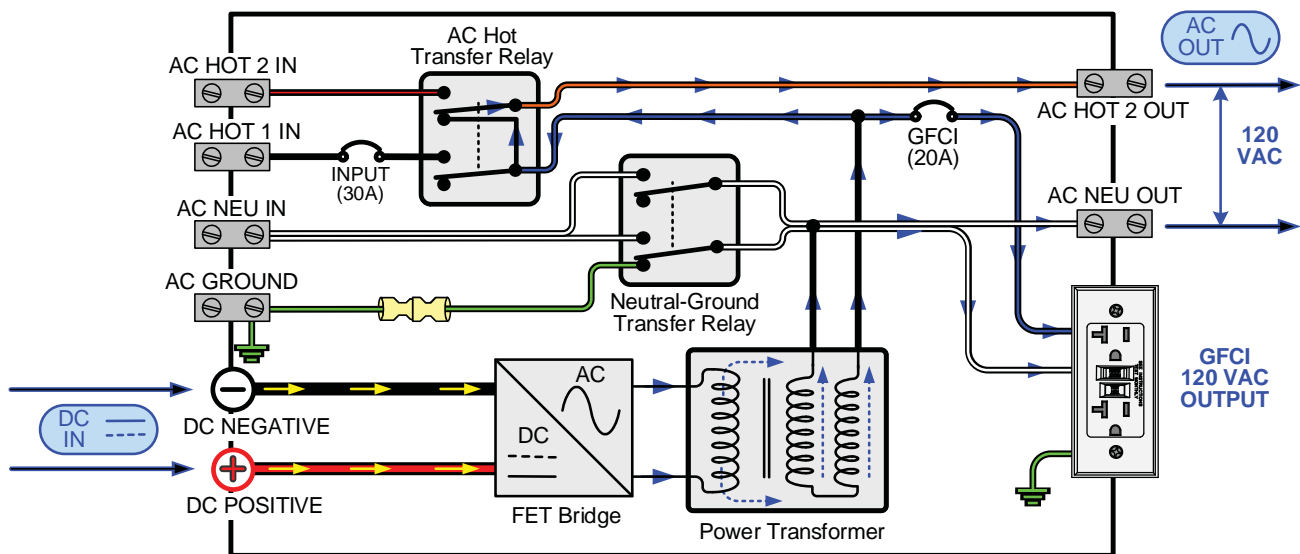

Figure 3-1, Power Flow – Inverter Mode (MS2012-G/2812-G/4024-G models)
**Inverting** – When a load greater than 5 watts is connected to the inverter output, the MS-G Series inverts the DC power from the battery and supplies 120 VAC power to the inverter's GFCI outlet (and to sub-panel, if connected). The inverter's green LED flashes once every second (medium flash) to indicate it is inverting. The amount of time the inverter can be inverting and providing power is directly related to the amount of AC loads that are connected, and the capacity of the battery bank. Refer to Figures 3-1 & 3-2 to see the flow of power from the DC input to the AC output while in Inverter mode.